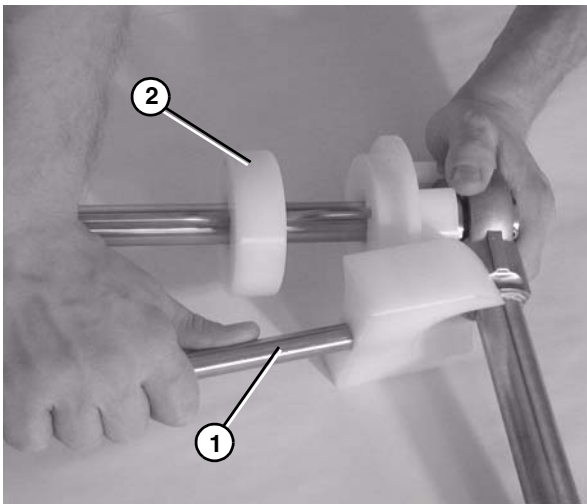

Figure 61
- Remove the guard bar (**Figure 61, item 1**).
- Remove the pucks (**Figure 61, item 2**).